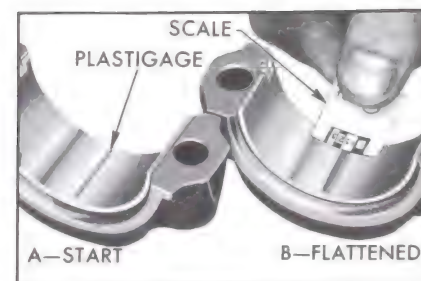

Figure 2-37—Checking Bearing Clearance with Plastigage
2. Place a piece of Plastigage lengthwise along the bottom center of the lower bearing shell (Figure 2-37, view A), then install cap with shell and tighten bolt nuts to 40-45 ft. lbs. torque.
5. Using the scale printed on the Plastigage envelope, measure the flattened Plastigage at its widest point. The number within the graduation which most closely corresponds to the width of Plastigage indicates the bearing clearance in thousandths of an inch. See Figure 2-37, View B.